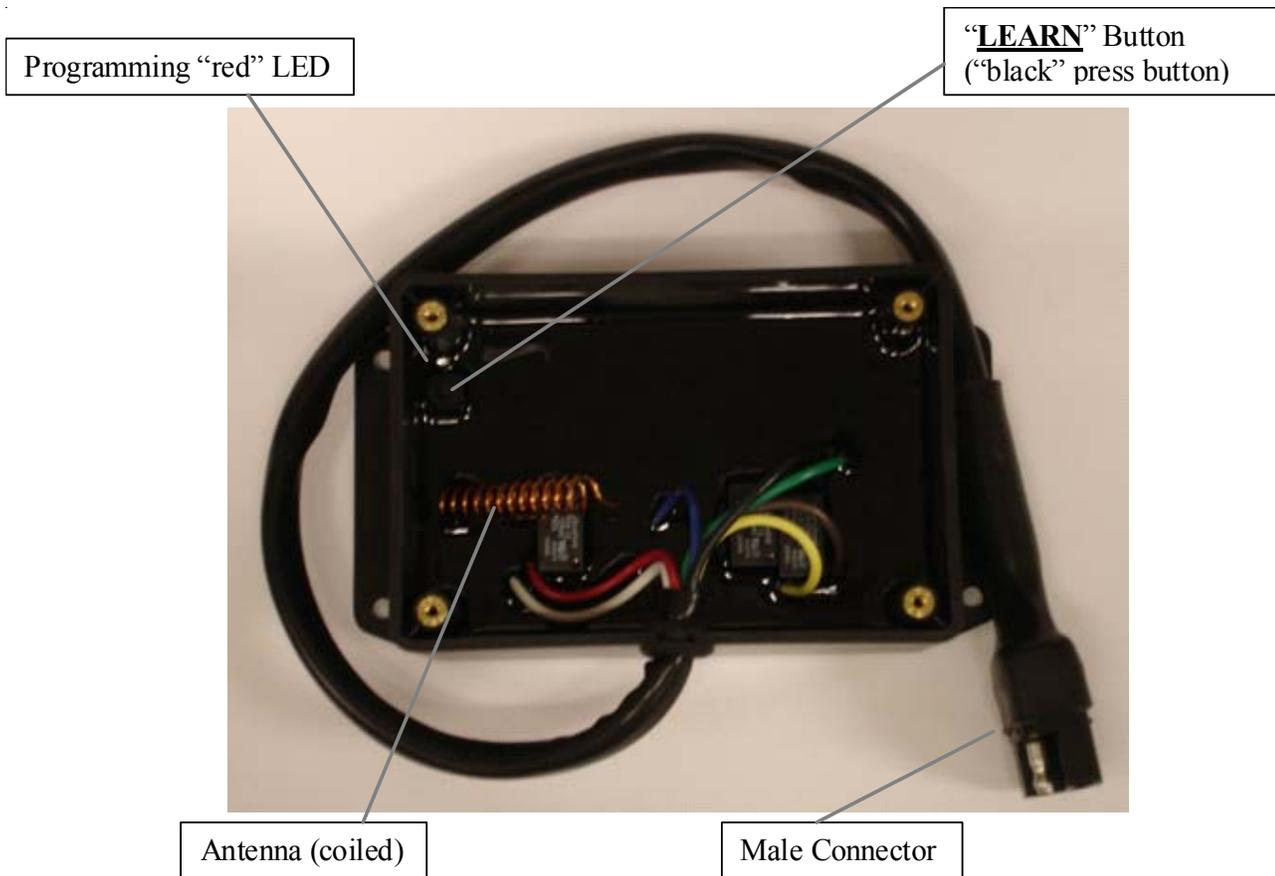

Fig. 3: Base Unit layout (Figure shown without Base Unit Cover)
1. Remove (4) screws and cover on Base Unit.
2. Power-up the Base Unit. Connect a 12V power source to the spreader 12V battery terminals and plug the engine wire harness to the Base Unit wire harness (see Male Connector in Fig. 3). DO NOT DISCONNECT THE BATTERY TERMINALS from the 12V source when engine is running.
5. On the Base Unit (see Fig. 3) press the black "**LEARN**" button. The "red" LED will start to blink (for approximately 15-17 seconds).
7. Verify the (5) functional buttons (Buttons #1, #3, #4, #5, & #6) on the Transmitter are working with the Spreader Unit by pressing each button, individually (the Base Unit "red" LED will flash when a Transmitter button is pressed). If Transmitter buttons are not working, repeat steps 3 – 8 or see the Trouble shooting directions.
8. When Transmitter buttons are functioning properly, re-assemble the Cover on the Base Unit with the (4) screws. Your Swenson Wireless Controller is now ready to use!